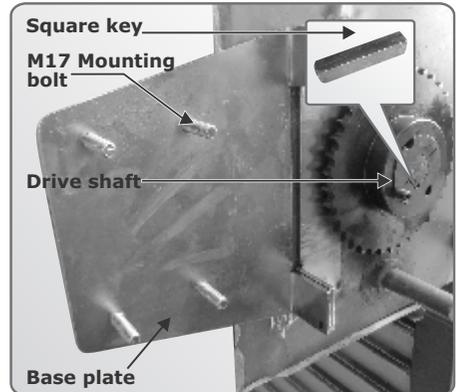

FIGURE 27
9. Fit the sprocket supplied with the **RSO** kit onto the door's driveshaft and insert the square key(not supplied) into the slot as shown in Figure 27.